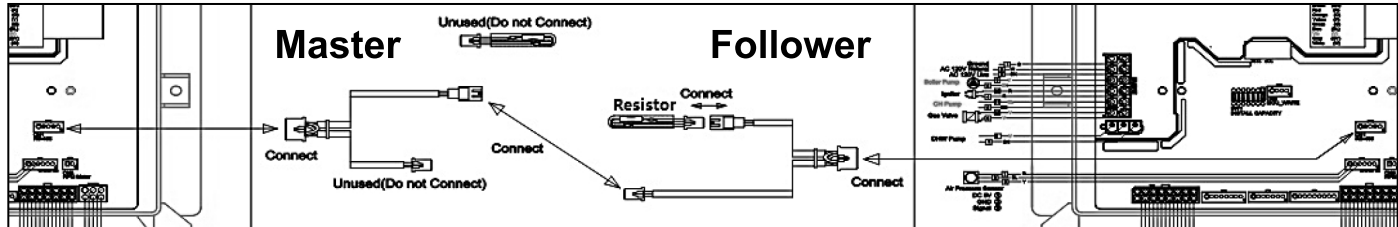

Figure 31 - Cascade Wiring Example
1. Connect the five pin connectors of the cascade communication cables to the control board of every unit. See Figures 31 and 32.